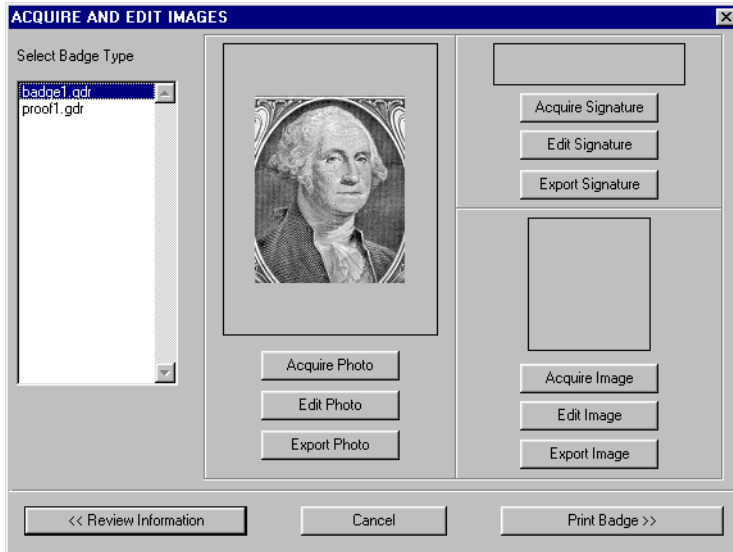

Figure 24: Acquire and Edit Images Window with Cardholder Photo
7. If you are satisfied with your adjustments, click the button. The Acquire and Edit Images window appears with the cardholder photo displayed (see Figure 24).
12. By default, the exported cardholder photo file is saved in the same folder with the original cardholder photo. If the photo file should be saved in a different folder, click the  at the right side of the “Save in” field. Navigate through the folders in the host computer’s hard disk drive until you locate the desired folder. Click the  button. The cardholder photo file is exported and the Acquire and Edit Images window reappears (see Figure 24 on page 22).